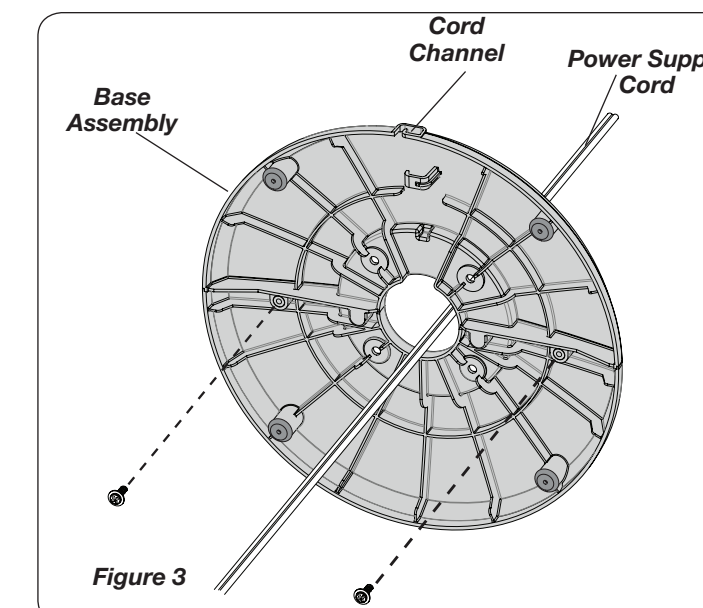

Figure 3
2. Secure the Base halves with (2) M4 X 13mm Screws. Thread the **Power Supply Cord** through the large hole in the **Base Assembly**. **NOTE:** The **Cord Channel** on the bottom of the Base should be towards the back of the Heater. (Figure 3)